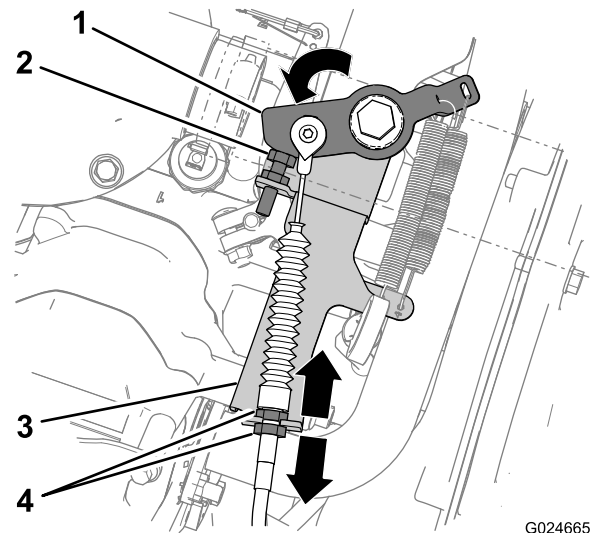

Figure 42
- Loosen the inboard-jam nut for the throttle cable and tighten the outboard jam nut to decrease the gap (Figure 42).
- Loosen the outboard-jam nut for the throttle cable and tighten the inboard jam nut to increase the gap (Figure 42).
4. Ensure that the jam nuts for the throttle cable are tight (Figure 42).